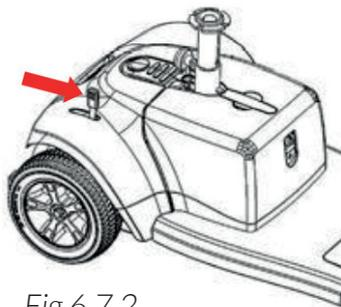

Fig 6.7.2
- Freewheel position - is indicated by 'Open' - push the lever forwards for this position. **Fig 6.7.2.**